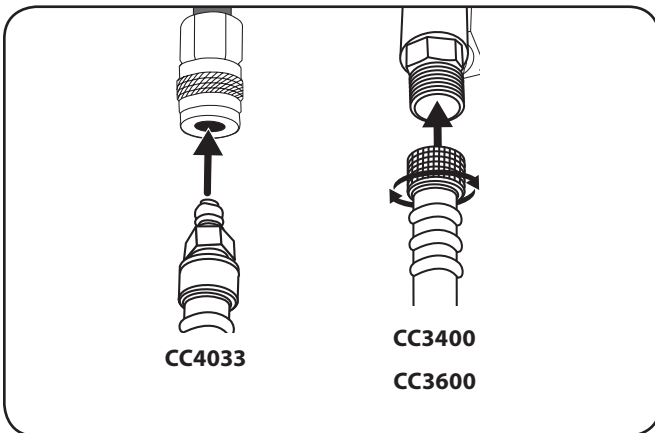

Figure 5-3
- Connect high pressure hose to pump outlet. See Figure 5-3.